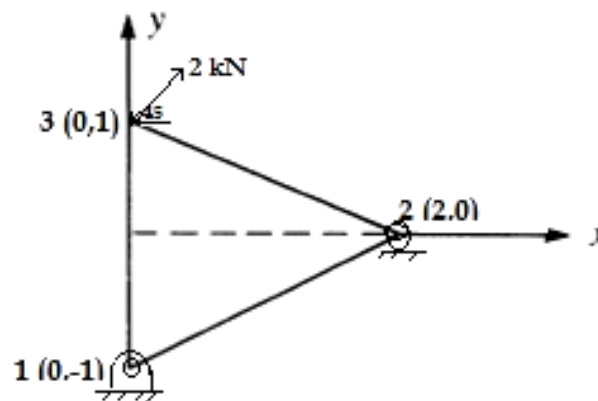

Fig. 6
- 6A. Compute the element stiffness matrix for the Constant Strain Triangle (CST) given in **Fig.6** below: Determine the nodal displacements and support reactions. Dimensions are in m. Assume plane stress condition. Given that thickness of the element is 25 mm, Poisson's ratio $\mu = 0.25$ and $E = 200$ GPa.